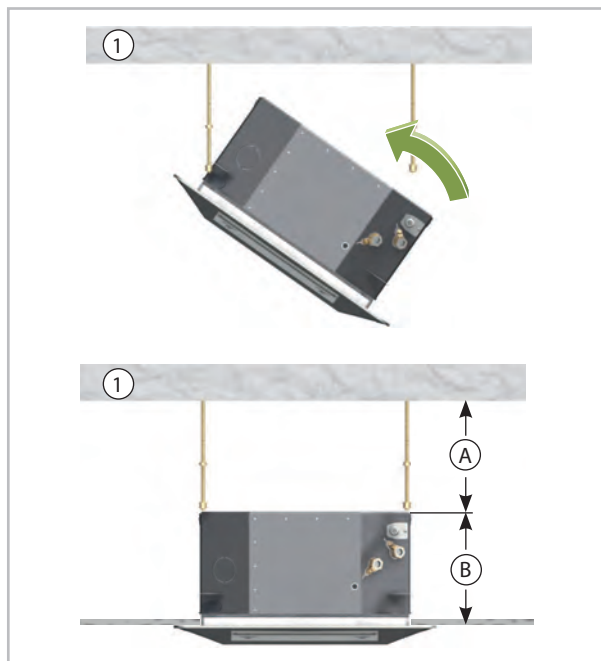

Fig. 20: Hooking in the unit (MXD 204-524)
2. Fit the indoor unit onto the threaded rods and use the lower nuts to level the unit (Fig. 20).